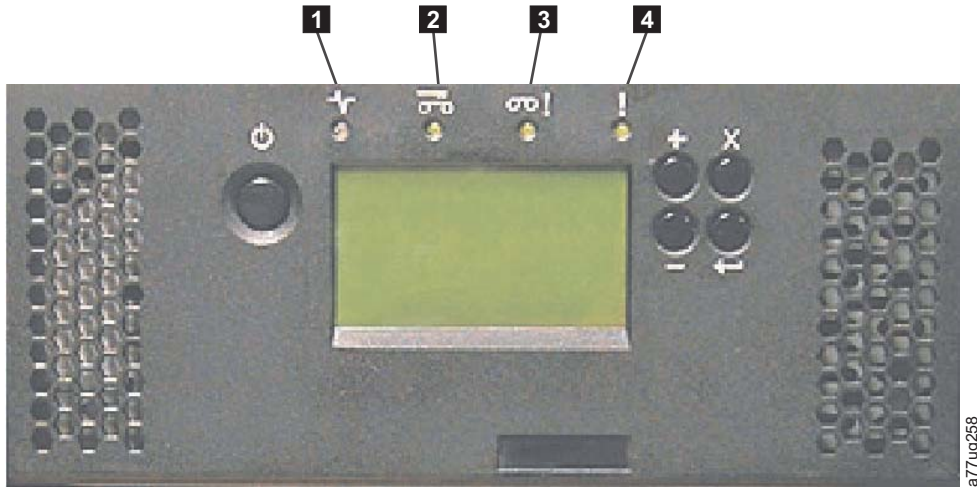

Figure 10-20. Library front panel LEDs
- 1) After power up, the Ready/Activity LED ( **1** in Figure 10-20 on page 10-22) turns ON.
- 1) The Error LED ( **4** in Figure 10-20 on page 10-22) turns ON.
- 1) The Error LED ( **4** in Figure 10-20) will turn ON. This indicates that the Library Controller Card from the defective library is not functioning properly.
- 1) The replacement library enclosure will complete with the Ready/Activity LED ( **1** in Figure 10-20 on page 10-22) ON.
- 1) The Error LED ( **4** in Figure 10-20 on page 10-22) will turn ON.